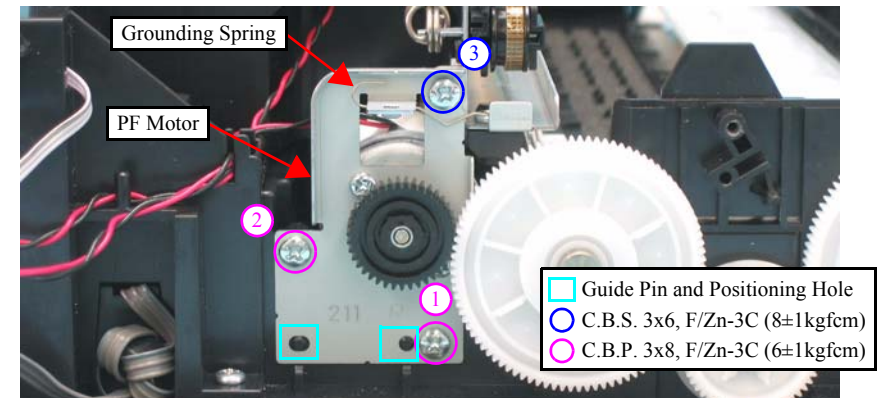

Figure 4-68. Removing the PF Motor (2)
- Insert the guide pins (x2) on the Base Frame into the positioning holes (x2) of the PF Motor as shown in Figure 4-68.
- Tighten the screws in the order given in Figure 4-68.